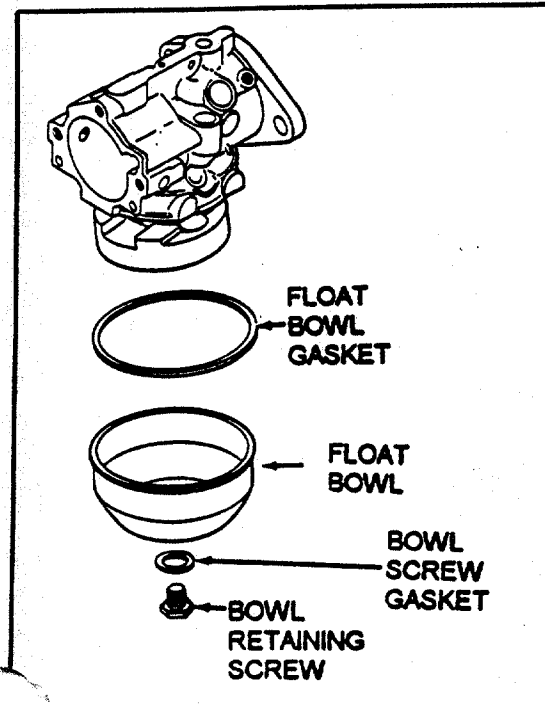

FIGURE 3
6. IF THE OLD HEAT SHIELD HAS BEEN RUBBING AGAINST THE CARBURETOR FLOAT BOWL YOU MUST REPLACE THE CARBURETOR FLOAT BOWL, FLOAT GASKET AND BOWL SCREW GASKET. SEE FIGURE 3